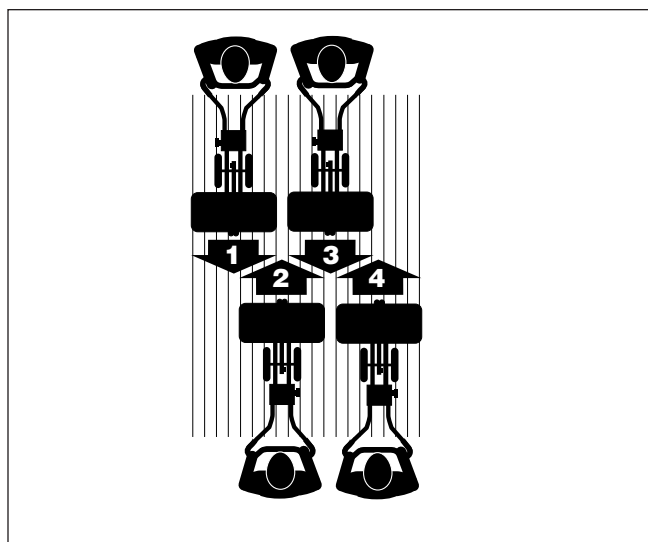
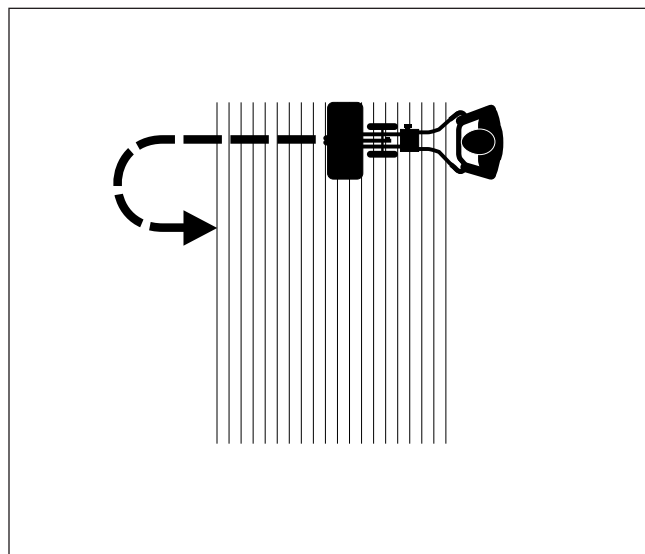

Figure 6
Figure 7
- For uniform results, make side-by-side passes lengthwise across the lawn, overlaying each pass by approximately one-half the width of the machine (see Figure 6). For more thorough thatch removal, make a second series of passes at a right angle to the first series of passes (Figure 7).